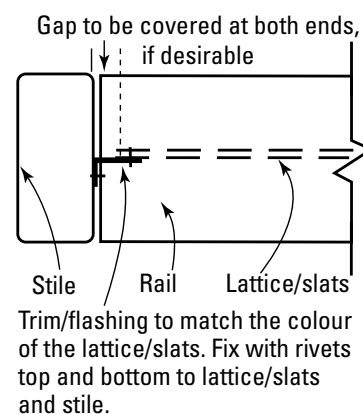

Figure 23.6
- 6) Remove the internal lips of the lower top rail for 5 mm at both ends. (Fig. 23.6)
16. Ensure the lattice is centred. If desirable, the gaps on either side of the 'Plus' option can be filled with a suitably sized flashing (trim and fix with rivets top and bottom to lattice/slats and stile - Figure 23.6)